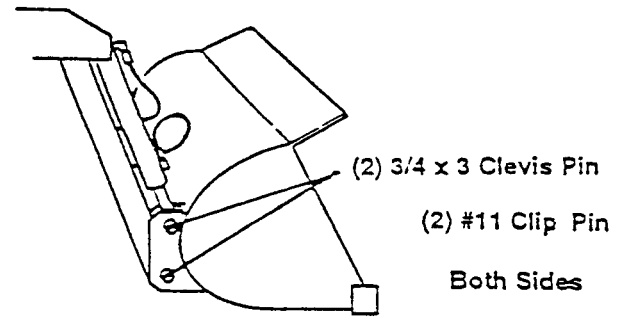

FIG. 11
- Attach both cylinders to top holes on bucket. Use two 3/4 x 3 clevis pins and #11 clip pin. (See Fig. 11).